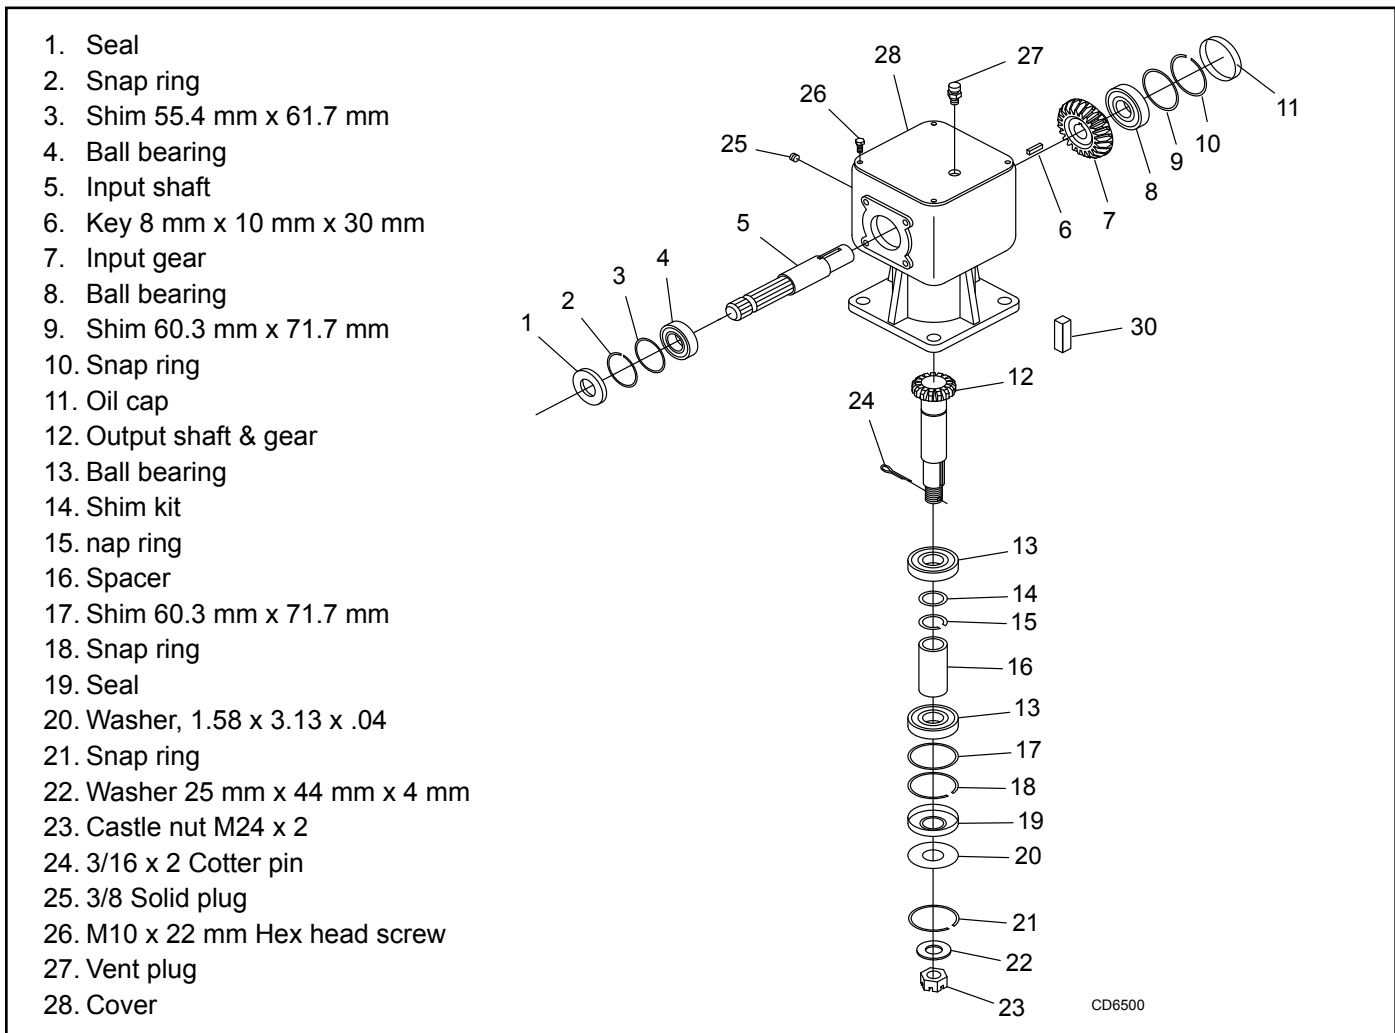

Figure 24. Gearbox Assembly
Horizontal Shaft Seal Replacement (Figure 24)
2. Remove vent plug (27), Figure 24, and siphon gear lube from housing through this opening.
3. If the leak occurred at either end of horizontal shaft, remove oil cap (11) and/or oil seal (1). Replace with new one (see Seal Replacement, page 25).
Disassemble Gearbox (Figure 24)
1. Remove top cover (28), Figure 24, from housing. Turn gearbox upside down and pour out remaining gear oil from gearbox.
2. Remove oil cap (11) (to be replaced).
3. Remove snap ring (10) and shim (9) from input shaft (5).
4. Support gearbox in hand press and push on input shaft (5) to remove bearing (8).
5. Remove gear (7) from inside housing.
6. Remove oil seal (1) from front of housing (to be replaced).
7. Remove snap ring (2) and shim (3) from front of housing.
8. Remove input bearing (4) by using a punch and hammer from outside of housing.
10. The castle nut (23) and cotter pin (24) are already removed with the drive sheave. Remove the snap ring (18), washer (20), and seal (19).
11. Remove output shaft (12) and bearings by using a punch and hammer and tap on top to drive down.
Vertical Shaft Seal Replacement (Figure 24)
Reassemble Gearbox (Figure 24)